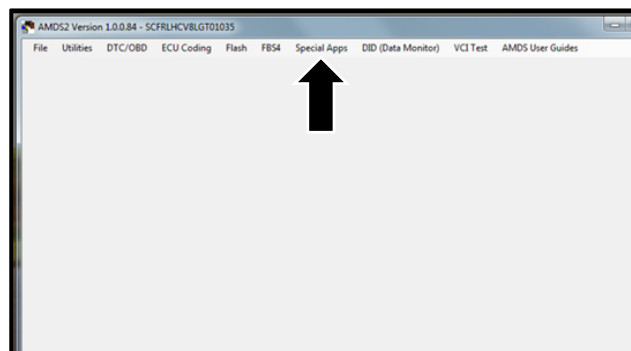

Figure 1
6. In AMDS 2.0 click “Special Apps” (refer to Figure 1).